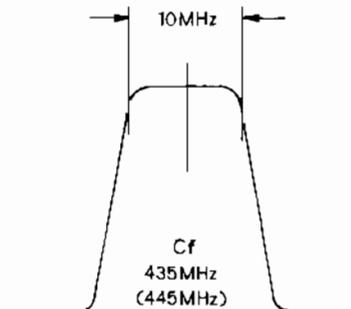

Figure 4
- e) Close the PTT switch and adjust  $\text{TC}_{3004}$ ,  $\text{TC}_{3005}$ ,  $\text{TC}_{3006}$  and  $\text{CV}_{3003}$ , until the scope pattern illustrated in Figure 4 is obtained.